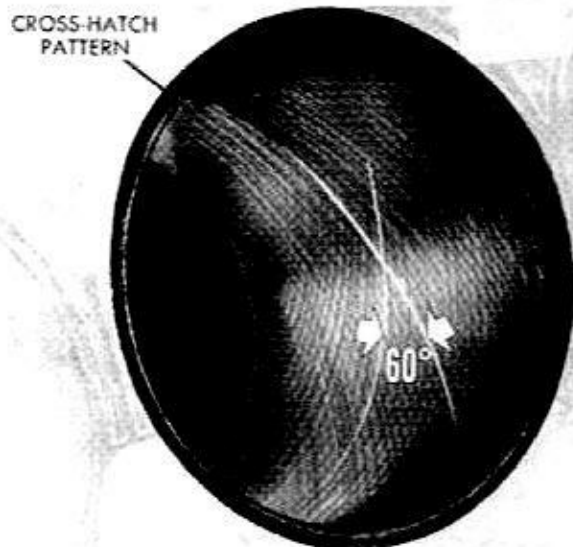

Fig. 30—Cross Hatch Pattern
(1) Used carefully, the cylinder bore resizing hone Tool C-823, equipped with 220 grit stones, is the best tool for this job. In addition to deglazing, it will reduce taper and out-of-round as well as removing light scuffing, scoring or scratches. Usually a few strokes will clean up a bore and maintain the required limits.
(2) Deglazing of the cylinder walls may be done using a cylinder surfacing hone, Tool C-3501, equipped with 280 grit stones (C-3501-3810). If the cylinder bore is straight and round 20-60 strokes depending on the bore condition will be sufficient to provide a satisfactory surface. Inspect cylinder walls after each 20 strokes. Use honing oil C-3501-3880 or a light honing oil available from a major oil distributor. **Do not use engine or transmission oil, mineral spirits or kerosene.**
(3) Honing should be done by moving the hone up and down fast enough to get a cross-hatch pattern. When hone marks intersect at 60°, the cross hatch angle is most satisfactory for proper seating of the rings. (See Fig. 30).
(4) After honing, it is necessary that the block be cleaned again to remove all traces of abrasives.